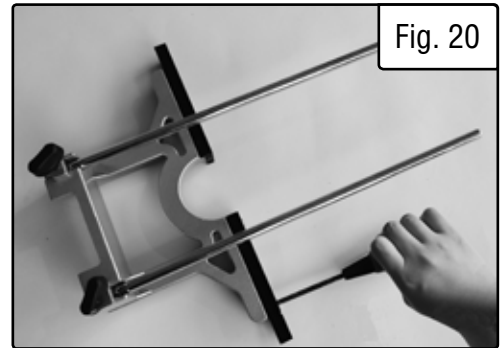

Fig. 20
1. Unscrew the four screws and remove the two sliding pads on the straight guide fence bracket (Fig. 20).